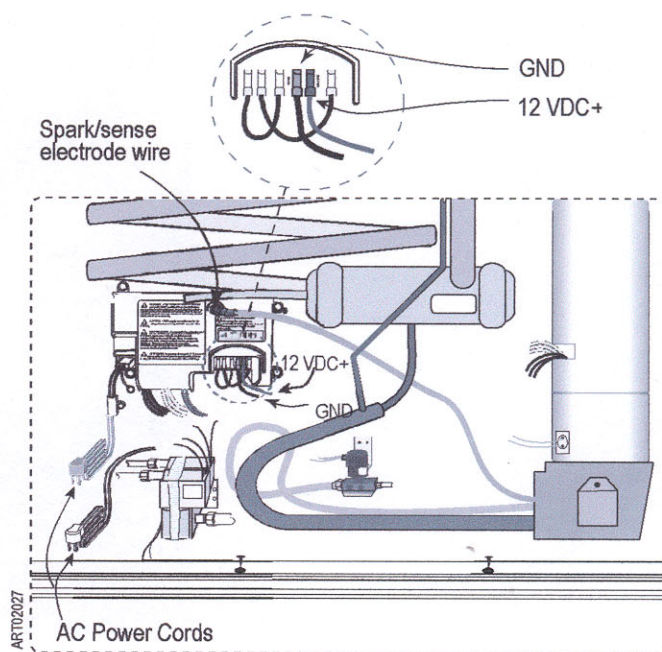

Figure 2. Power Board (as seen through exterior air intake vent)
3. Disconnect the refrigerator's black 120 AC power cord from the RV receptacle. Refer to Figure 2.
5. Disconnect the RV's 12 VDC+ power at the power board. If necessary, tape the RV's connector to prevent shorts and blown fuses. Refer to Figure 2.
- Take care to prevent damage to the terminal and wire end as you carefully disconnect the high voltage spark/sense electrode wire from the power board. Refer to Figure 2.
2. Reconnect the RV's ground wire to the ground terminal of the power board. Refer to Figures 2 and 12.
3. Remove the electrical tape from the RV's 12 VDC+ wire (if necessary) and connect it to the power board. Refer to Figures 2 and 12.
5. Plug both power cords (one black and one white) into the RV's AC receptacles. Refer to Figure 2.